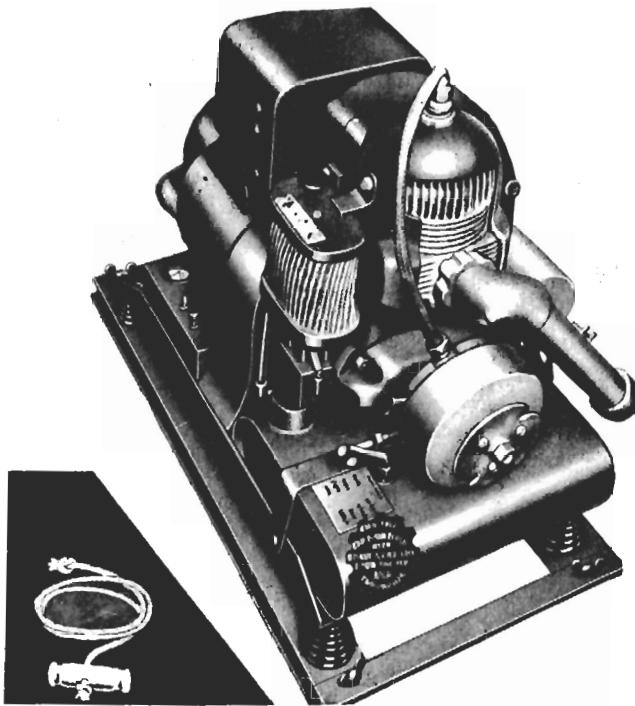

Figure 3 — Auxiliary Power Plant
g. AUXILIARY POWER PLANT. (See figure 3.)—The auxiliary power plant, stowed in the waist compartment, provides an output of 70 amperes to boost the electrical energy for starting the engines. It is a self-contained unit consisting of a 28.5-volt, 2000-watt dc generator, coupled to a one-cylinder, four-cycle magneto ignition internal combustion engine.